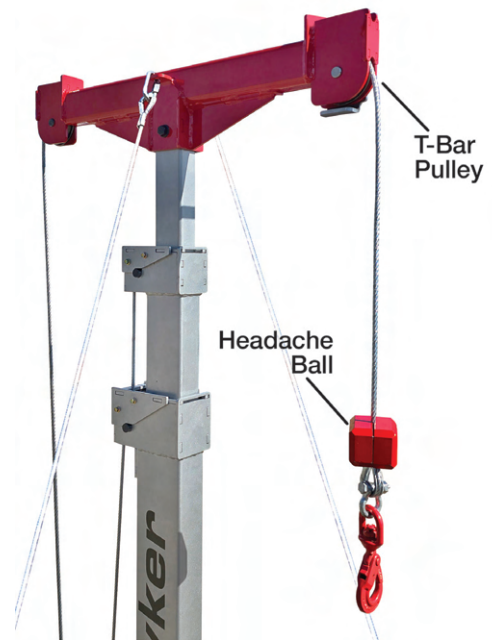

Figure 7-18: Keeping Space Between Headache Ball from T-bar Pulley
8. Raise the mast to the desired height above 20 feet. Make sure you let out enough load cable while raising the mast so the headache ball does not jam into the mast T-bar pulley (see Figure 7-18).